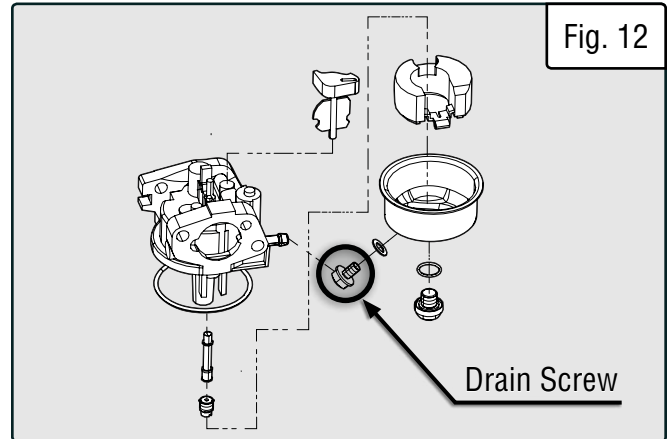

Fig. 12
2. The carburetor can be accessed from the backside of the generator between the engine and the air filter. To drain the carburetor, open up the carburetor drain screw with a Phillips-head screwdriver (not included) and drain out any gasoline that has built up inside. See Fig. 12.